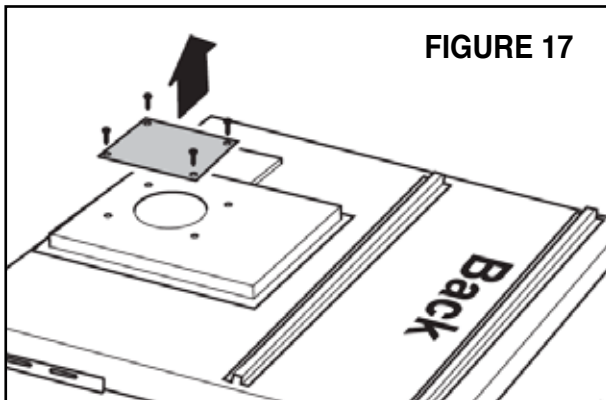
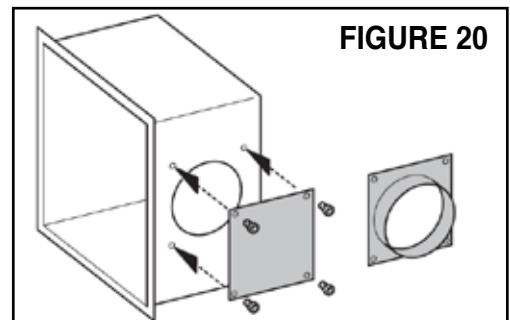

FIGURE 17
FIGURE 20
- Remove the small cover on the back of the hood (FIGURE 17)
- Remove the vent collar from the blower box and close the opening in the blower with the cover removed from the back of the hood housing removed from FIGURE 17. Attach it with 4 screws. (FIGURE 20).